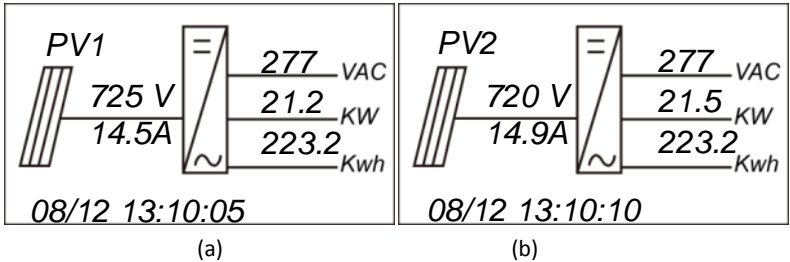

Figure 3.3 - Normal Operation Status
- (g) When the LCD shows the normal operation status (Figure 3.3) and the “RUN” light on the LED panel lights up, it indicates that the grid connection and power generation are successful.